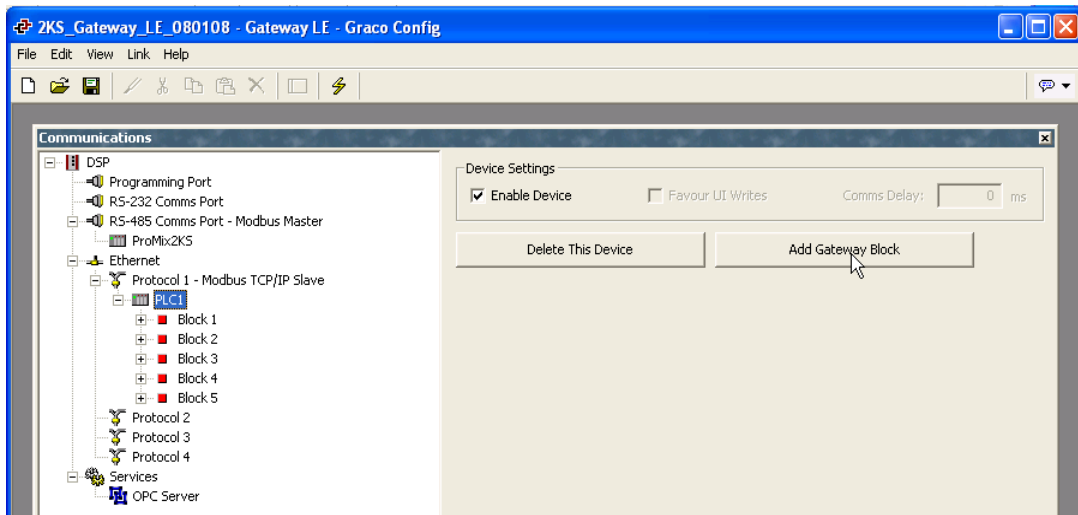

FIG. 21: Add Gateway Blocks
- See FIG. 21. Add as many Gateway blocks as desired under each device.